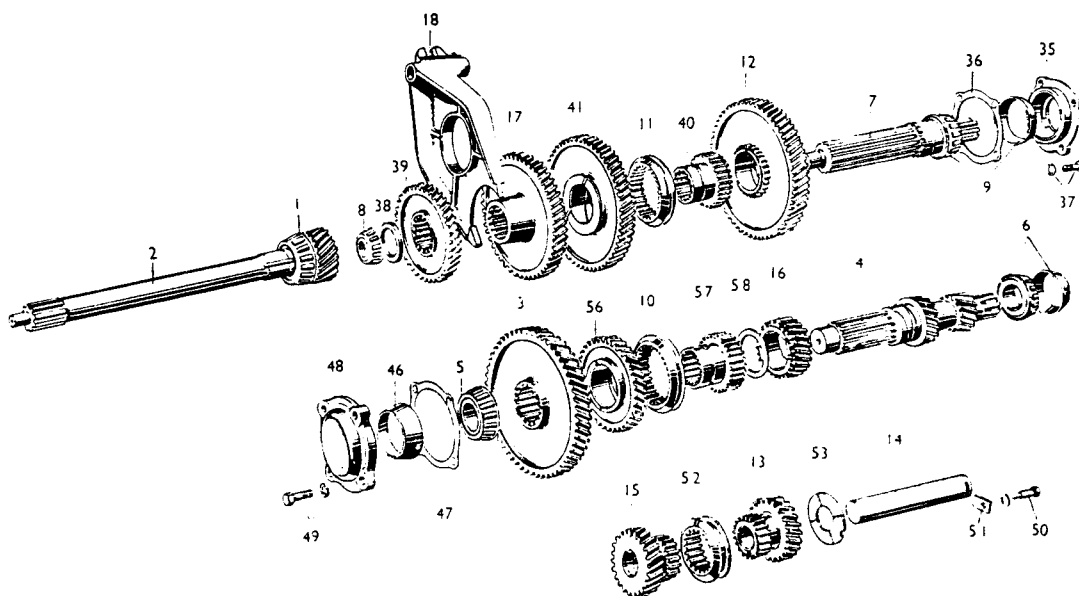

FIG. 6
4. Withdraw cotter pins and unscrew slotted nuts from shifter stop securing bolts (30).
5. Withdraw bolts and remove shifter rail stop (31) and spacers (32). Detach starter link from reverse shifter rail by removing clevis pin.
6. Withdraw shifter rails to the rear, removing selectors (33) and (34) and 1st and 2nd gear shifter fork (19). Remove plunger from central (3rd and 4th gear) shifter rail (22) and balls (27) from drilling in casing joining selector rail locating holes. Examine oil seal in reverse shifter rail locating hole. Remove and renew if any indication of oil leakage has been shown. Renew expansion plugs where necessary.
7. Remove rear mainshaft bearing retainer (35) Fig. 6 and shims (36) secured by 4 setscrews (37) with lockwashers.
8. Withdraw the mainshaft to the rear. If necessary, lightly tap 1st gear wheel to disengage shaft from pilot bearing (8) in main drive pinion.
**To Dismantle Countershaft Assembly. See Figs. 6 and 1.**